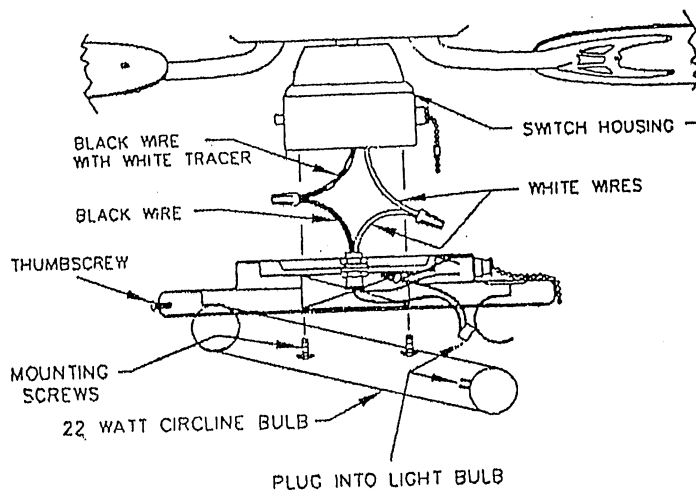

FIGURE 1.
1. REMOVE THE COVER PLATE FROM THE BOTTOM OF THE FAN SWITCH HOUSING. REMOVE THE LIGHT KIT COVER PLATE FROM THE LIGHT KIT. SEE FIG. 1. IF THE COVER PLATE FROM THE SWITCH HOUSING HAS A HOLE IN THE CENTER, PROCEED TO STEP 2B. IF THE COVER PLATE DOES NOT HAVE A HOLE IN THE CENTER, DISCARD THE COVER AND PROCEED TO STEP 2A.
- 2A. LOCATE THE TWO WIRES IN THE FAN SWITCH HOUSING THAT HAVE LABELS MARKED "CONNECT LIGHT HERE" OR "FOR LIGHT USE". ONE WIRE WILL BE WHITE AND THE SECOND WILL BE BLACK WITH A WHITE TRACER. CONNECT THESE WIRES TO THE WIRES COMING FROM THE LIGHT KIT, CONNECTING WHITE TO WHITE AND BLACK WITH WHITE TRACER TO BLACK WIRE FROM LIGHT KIT. ASSEMBLE THE LIGHT KIT TO THE FAN USING THE MOUNTING SCREWS REMOVED IN STEP 1 ABOVE. SEE FIGURE 1. THEN PROCEED TO STEP 3.